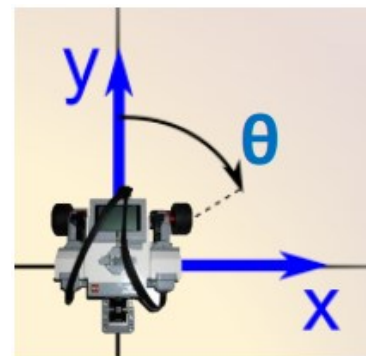
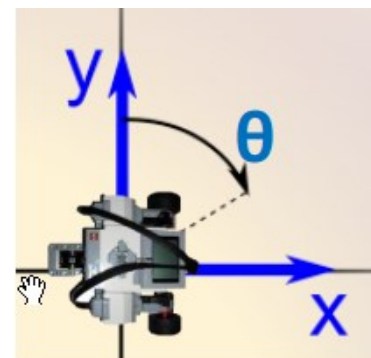

Figure 1. Robot faces north at 0°.
Figure 2. Robot faces east at 90°.
E.g. if the (X , Y , θ) convention is set as in Figure 1, then:
E.g. if the (X , Y , θ) convention is set as in Figure 2, then:
5. Do I have to follow the same (X, Y, θ) convention as in Figure 1 and Figure 2?